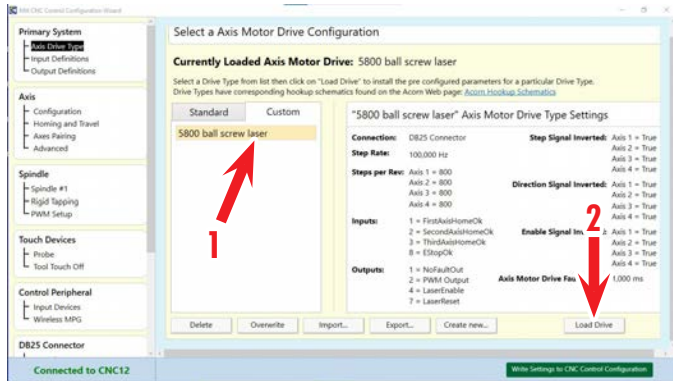

FIGURE 6—1-5800 ball screw laser file; 2-Load Drive button.
5. In this example, you should see *5800 ball screw laser* under the **Custom** tab. Then click on the **Load Drive** button (see Figure 6).